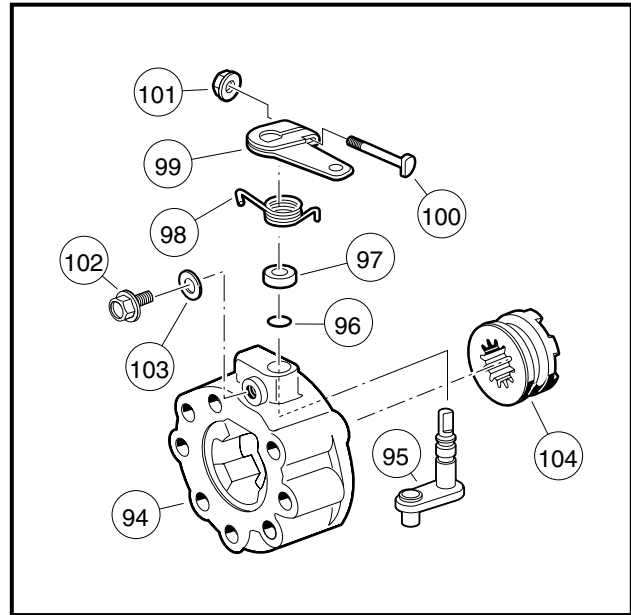

Figure 7-42 Differential Lock Housing Assembly
2. Place the shaft (95) into the hole in the differential lock housing (94) (**Figure 7-42, Page 7-23**).
3. Install the retaining screw (102) and washer (103) into the differential lock housing. Ensure that the screw is aligned with the second groove in the differential lock shaft before continuing to tighten the screw. Tighten the screw to 69 in-lb (7.8 N·m).
4. Place the spacer (97) onto the differential lock shaft.
6. Place the differential lock arm (99) on the shaft (95) and place the hooked end of the spring (98) on the arm.
7. Tighten the differential lock arm retainer nut (101) to 60 in-lb (6.8 N·m).